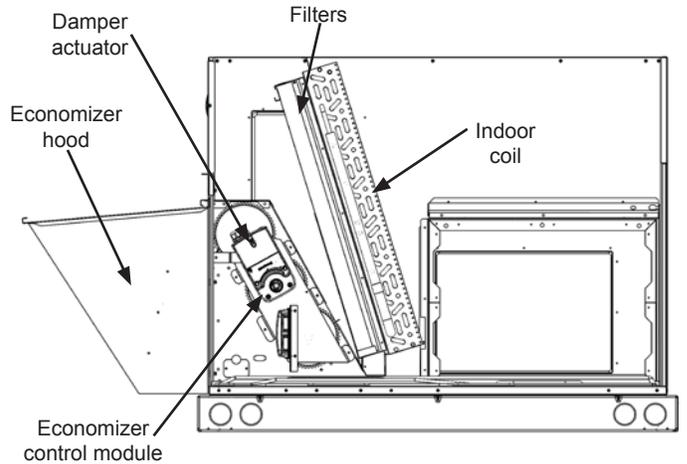

Figure 3
4. Install damper assembly into unit. Fit opening in bottom of damper assembly over the return air opening. See Fig. 3.
5. With hood assembled, fit the mating flange on hood top underneath the "knuckle" on the top seal panel. Attach hood over economizer as shown in figure 3, 5 and 11.